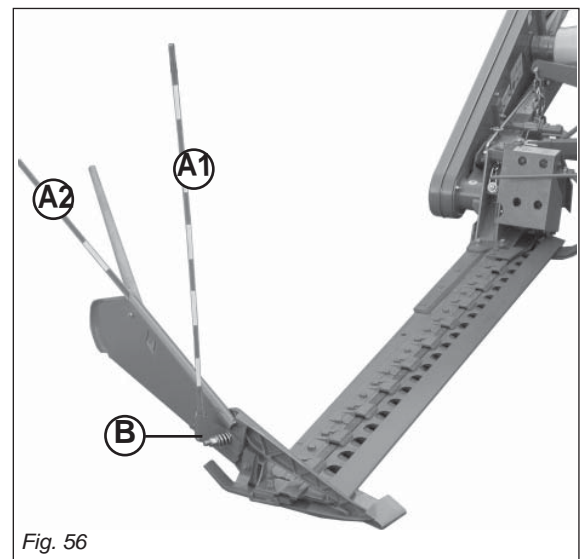

Fig. 56
The hazard bar has been included with the equipment of the machine for safety reasons, to indicate the space occupied by the mower at work. For working, position the hazard bar in position (A1, Fig. 56) and lock it in place with the screw (B). For transport put it in position (A2).